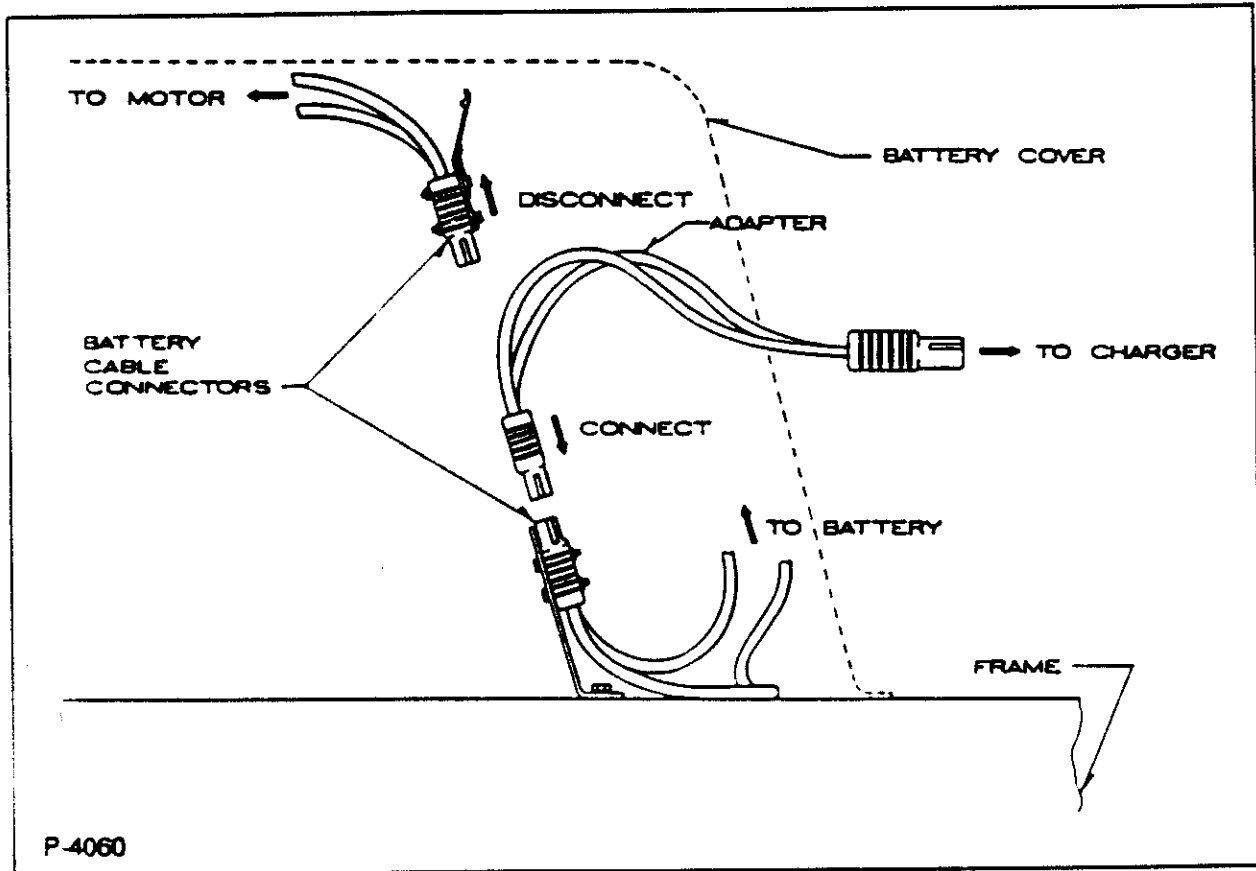

Figure 6
6. Connect the adapter cable to the battery connector. See Figure 6.
8. Connect DC connector on the charger to the adapter cable. See Figure 6.